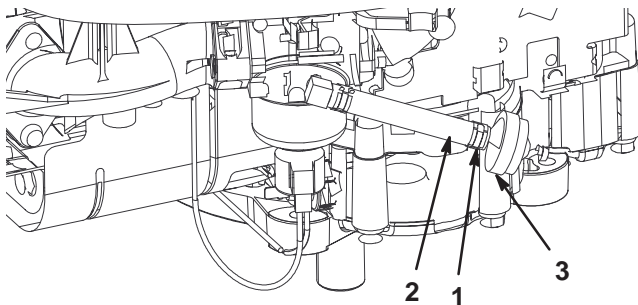

Figure 25
8. Squeeze the ends of the hose clamp together and slide it up the fuel line toward the fuel tank (Fig. 25).
9. Pull the fuel line off of the filter (Fig. 25) and allow the gasoline to drain into a gas can or drain pan.
Replace the fuel filter after every 100 operating hours or yearly, whichever occurs first. The best time to replace the fuel filter (Fig. 25) is when the fuel tank is empty. Never install a dirty filter if it is removed from the fuel line.
7. Squeeze the ends of the hose clamps together and slide them away from the filter (Fig. 25).